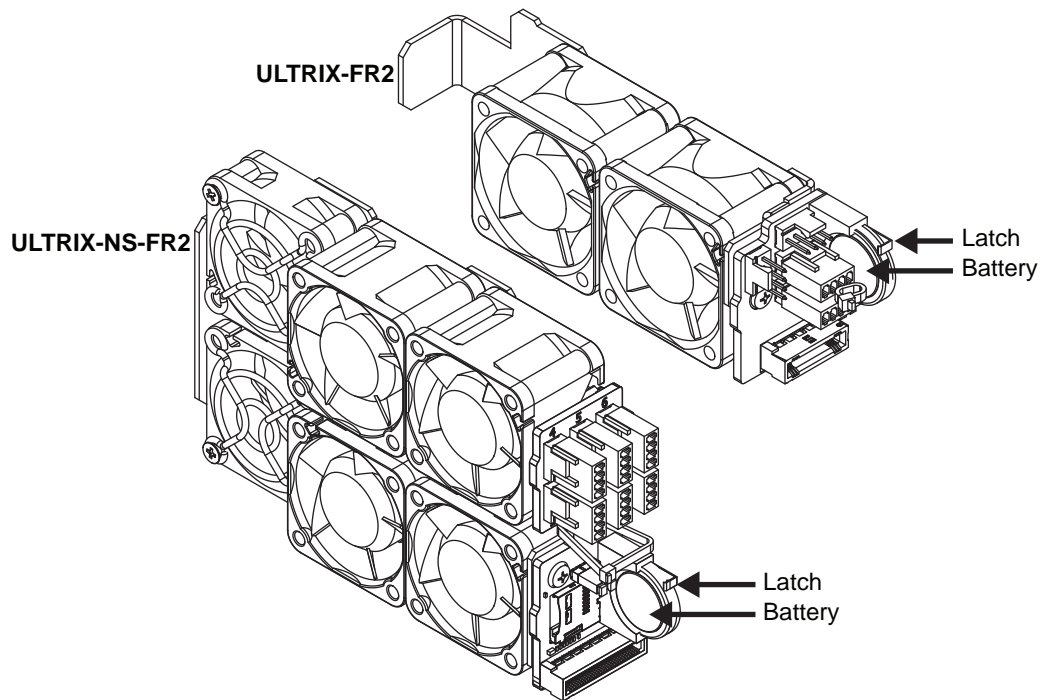

Figure 26.5 Battery Location inside the Cooling Fan Module — ULTRIX-FR2 and ULTRIX-NS-FR2
1. Locate and note the orientation of the failed battery inside the Cooling Fan Module. (**Figure 26.5**)